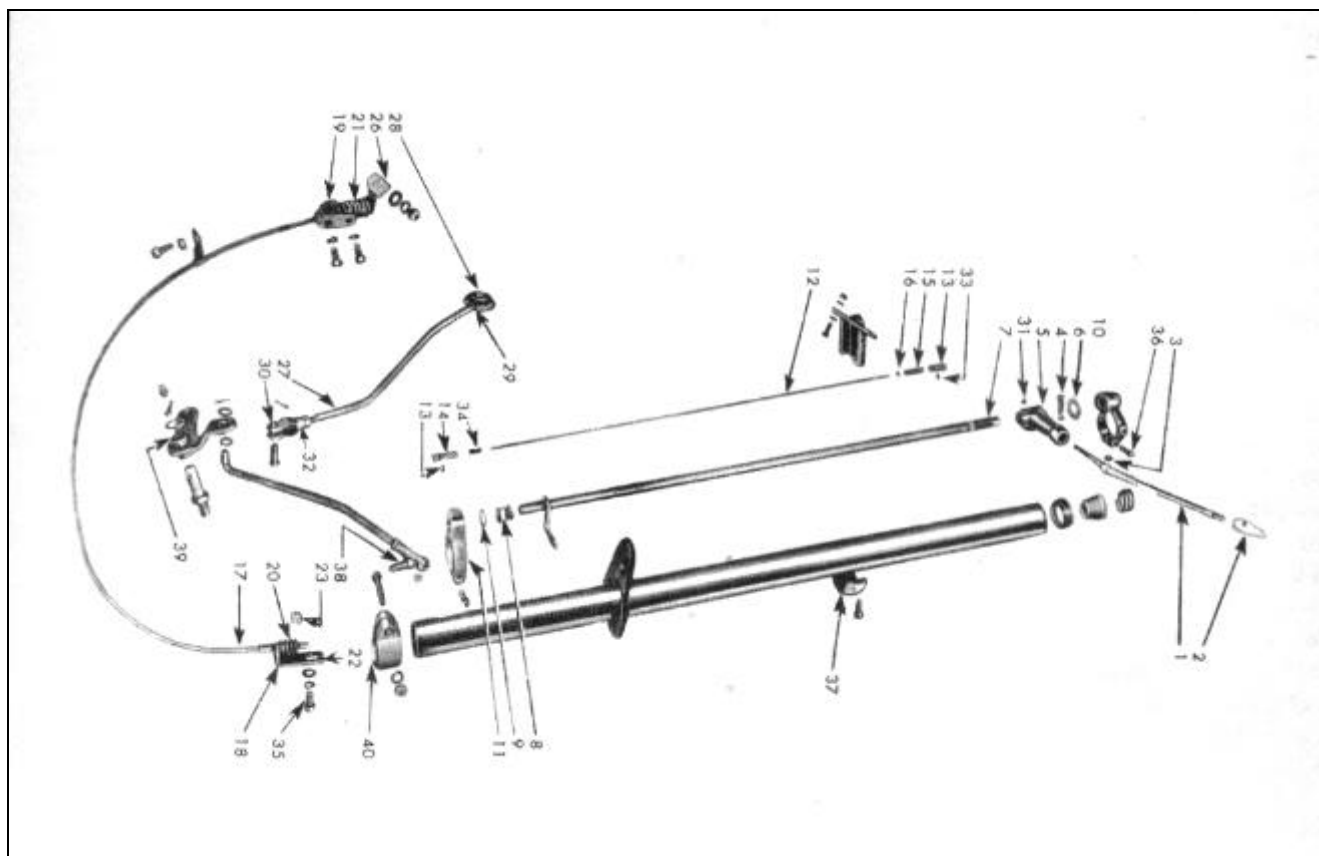

FIGURE 30
- A. Place "Gear Shift" Control Lever, Figure 30 in the extreme upper position.
- B. Loosen control wire casing anchor bracket bolt. Pull upper anchor bracket (18) up until all slack is out of casing and the shift shaft inner lever is fully over into the low and reverse shifter. (Check this in transmission). Tighten anchor bracket bolt (35) Figure 30. The control wire anchor should have clearance at top and bottom.
NOTE: Check shift selector lever (26) Figure 30 to which cross shift control wire is attached, to be sure the lever is tight on its shaft. Check bracket (19) to be sure it is tight on the transmission case.
C. The "Gear Shift" control should be inspected and if the gear control lever (1) Figure 30, is not in a true-crosswise position when in neutral, it should be adjusted by removing the cotter pin and clevis pin at the front end of the control tube to transmission rod (27). Loosen lock nut (32) and turn clevis (30) in the rod. When properly adjusted (transmission in neutral and Handy Shift control lever exactly crosswise), the clevis pin hole in the clevis (30) will line up with the hole in lever (39).
The backward and forward movement of the gearshift lever (1) Figure 30 imparts a rotary motion to the tube and lever (7). This rotary motion moves the control lever to bell crank rod (38), bell crank to shift shaft outer lever rod (27) and outer shift shaft lever (24) back and forth. The lever (24) is attached to the transmission shift shaft, a n inner lever mounted on the shift shaft moves the gear into the desired positions.